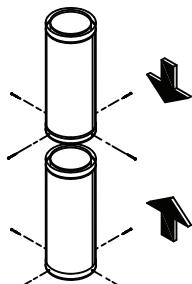

Figure 6
8. Assemble Chimney Sections: Chimney sections are connected by lowering the female end of a Chimney Section onto the male end of a previous section of chimney. For 10"-16" chimney pipe diameters, sheet metal screws are required to connect Chimney Section together. For each additional Chimney Section use four (4) Sheet metal screws provided to make a secure connection between the chimney sections (**Fig. 6**). For 8" chimney diameter, lower the female end of a Chimney Section onto the male end of a previous section of chimney. Turn top pipe section clockwise firmly to lock them together. Sheet metal screws may be used to reinforce the connection, however they are not normally required. Screws are only acceptable in the outer liner. Do not penetrate the inner liner of the chimney. Use a Wall Strap every eight feet of chimney height.